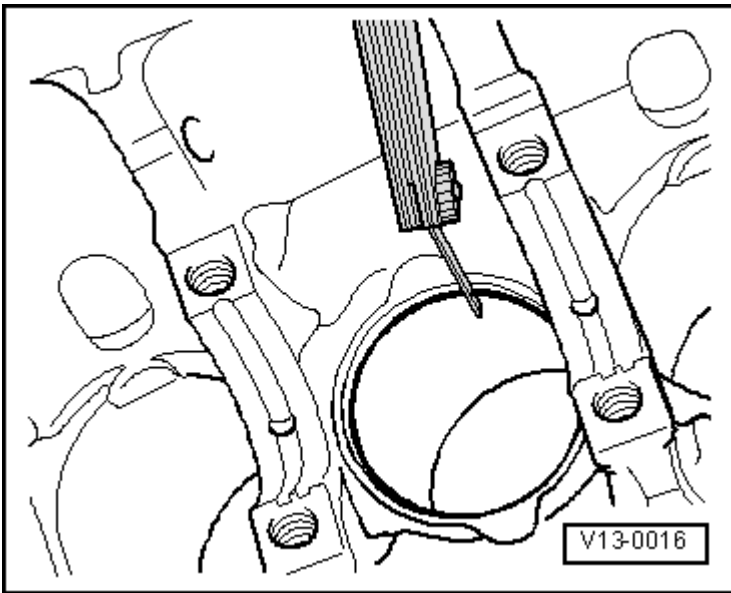

Fig. 11: Identifying Check Of Piston Ring Gap
- Checking the ring gap. Refer to **Fig. 11**.